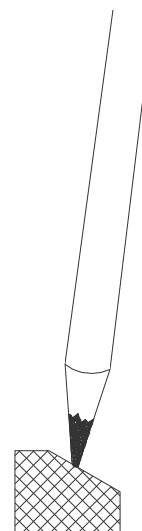

Figure 16
STEP 31. If the nosing is to be mechanically attached to the concrete, and if anchor holes have not been drilled into the nosing, mark the location for the anchor holes on the nosing (see Figure 16). Anchor holes are spaced 20" o.c. with an anchor hole at a nominal 3" from each end of the nosing. Repeat this procedure until each nosing section has the anchor hole locations marked on it. Drill the anchor holes, if necessary, into the nosings at the marked locations marked. Ensure that the anchor holes will allow the anchor heads to be completely recessed when the nosing is installed.